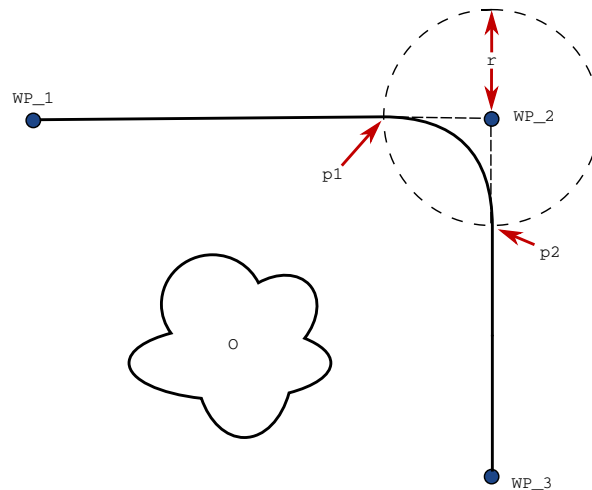

Figure 14.3: Blend over WP\_2 with radius  $r$ , initial blend position at  $p1$  and final blend position at  $p2$ .  $O$  is an obstacle.
**Blend parameters** Apart from the waypoints, multiple parameters will influence the blend trajectory (see figure 14.3):